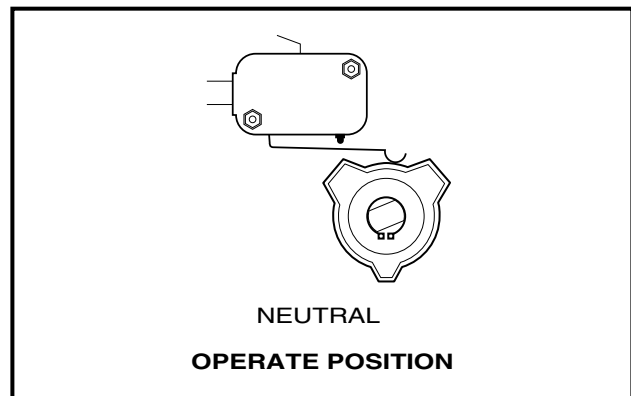

Figure 3-3 Neutral Lockout – Operate Position for Pedal-Start Vehicles
- 3.1.5. Return the neutral lockout cam to the OPERATE position (**Figure 3-3, Page 3-3**). Proceed to step 4.
- 6.1.3. Return the neutral lockout cam to the OPERATE position (**Figure 3-3, Page 3-3**). See following **NOTE**.